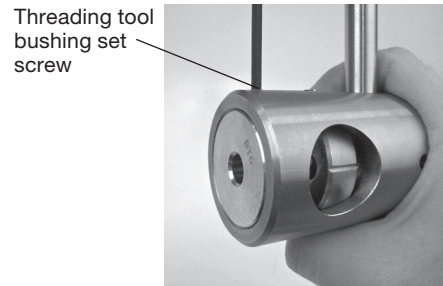

Fig. 12 Loosening threading tool bushing set screws (the second screw is on opposite side of housing)
1. Loosen the two 1/4 in. threading tool bushing set screws using the 1/8 in. hex key. (Fig. 12)